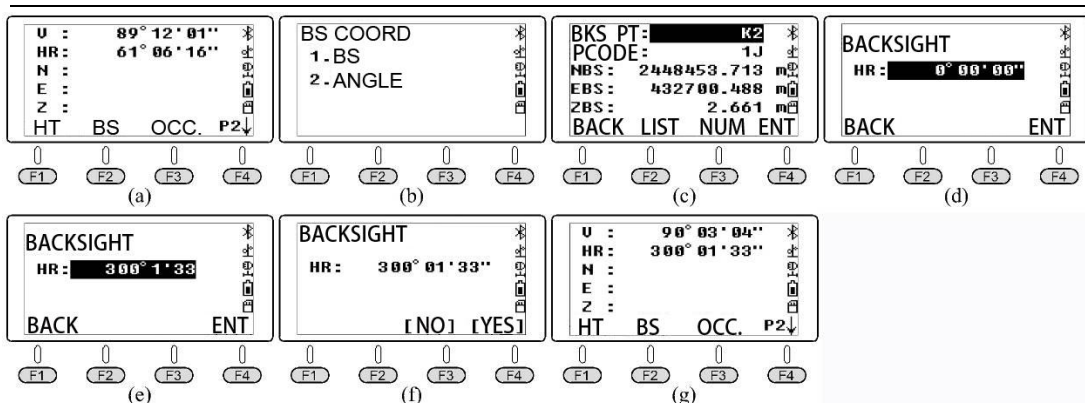

Figure 2-44 Execute the command "Back sight"
In the function menu on page P2 of Coordinate Measurement [Figure 2-44(a)], press **(F2)** (BS) to enter the interface of menu "BACKSIGHT"[Figure 2-44(a)]. There are two ways to set the rearward direction: Press **(1)** (BS COORD) to enter the interface of back sight points' coordinates [Figure 2-44(c)]. Press **(F2)** (LIST) to complete the back sight orientation from the known coordinate files and call points from the name list of the current coordinate file, and the operation method is the same as executing the command "Set site"; or press **(2)** (Fix back sight through rim angles) to enter the interface of "Input azimuth". Press **(3)** **(0)** **(0)** **(.)** **(1)** **(.)** **(3)** **(3)** to enter the back sight azimuth 300°01'33"[Figure 2-44(e)] and press **(F4)** (OK) to enter the interface as shown in Figure 2-44(f). Turn the alignment part so that the telescope is aimed at the target point K2. Press **(F4)** (Yes) to set the reading of horizontal plate to be the azimuth of survey station point K3 → back sight point K2, and return to the function menu on page P2 of Coordinate Measurement [Figure 2-44(f)].